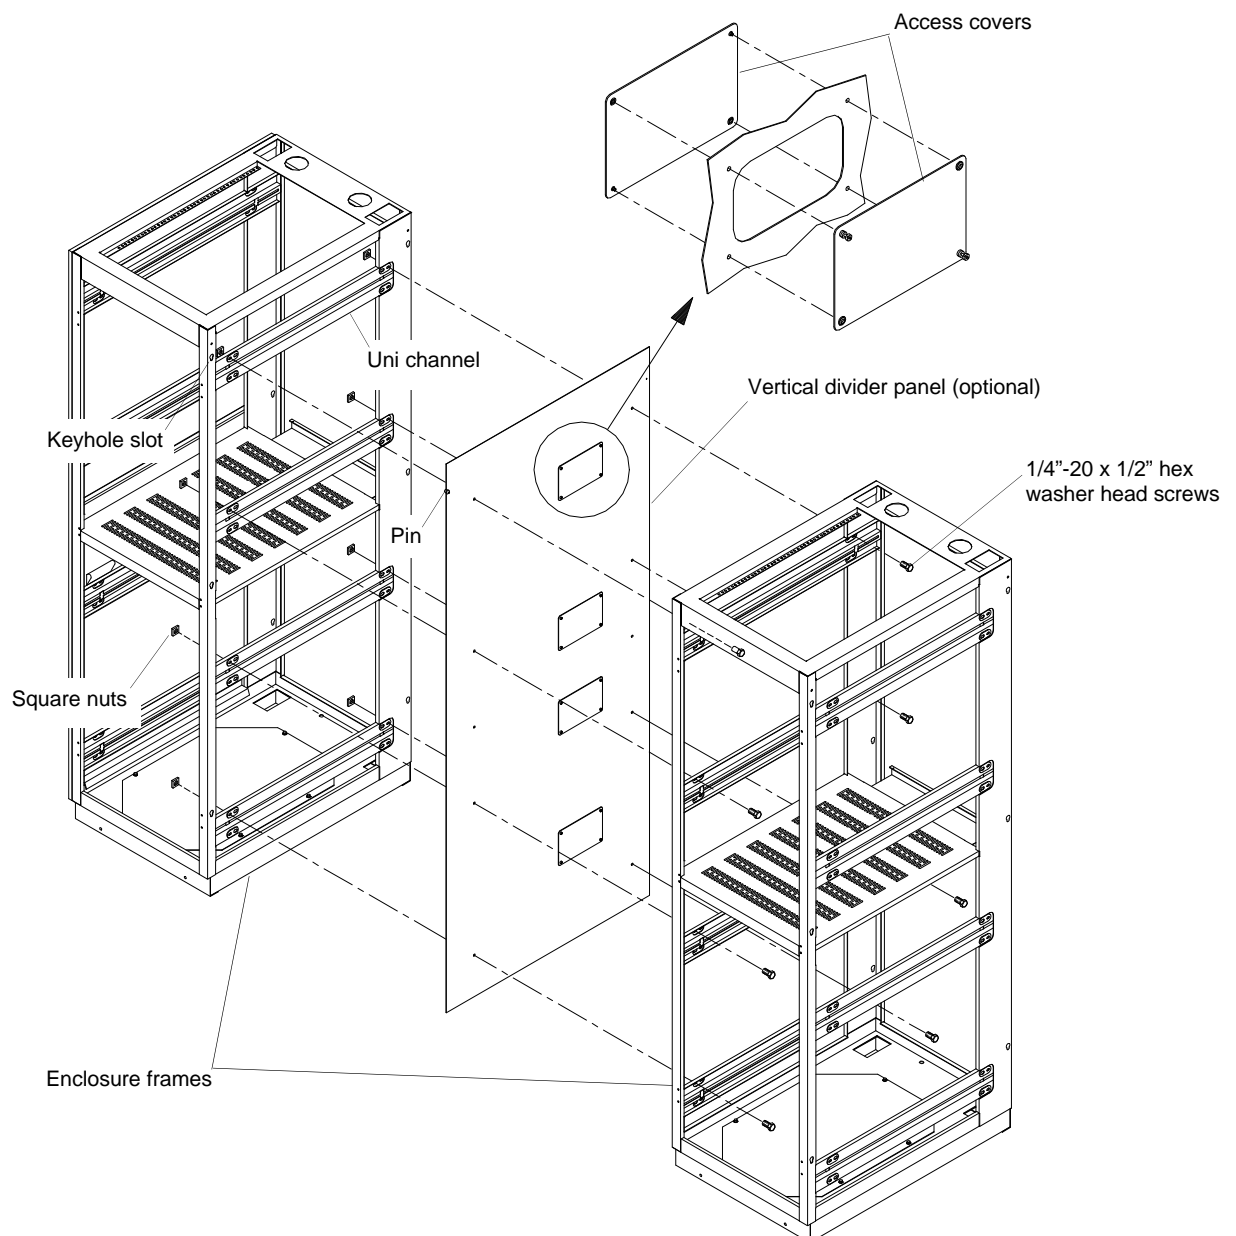

Figure 4
2. Align the units as shown in figure 4. If a **Vertical Divider Panel** is used, install it onto one of the units by engaging the pins located at the top of the panel with the keyhole slots in the unit frame.
Push the units together aligning the holes in the uni channels and the Vertical Divider Panel. Fasten the units together using six 1/4"-20 x 1/2" hex washer head screws and six square nuts. See figure 4. Tighten all screws securely.
The cable access covers can be removed as shown in figure 4.